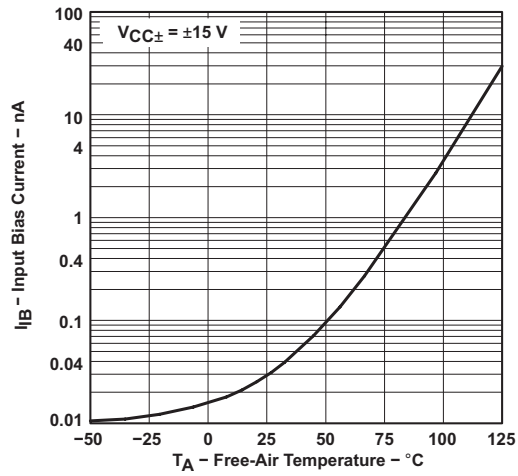

Figure 15. Input Bias Current
- (1) All characteristics are measured under open-loop conditions, with zero common-mode voltage, unless otherwise specified.
(2) This parameter is not production tested.
(3) Input bias currents of an FET-input operational amplifier are normal junction reverse currents, which are temperature sensitive, as shown in Figure 15. Pulse techniques are used to maintain the junction temperature as close to the ambient temperature as possible.
Input bias current versus Free-air temperature	Figure 15